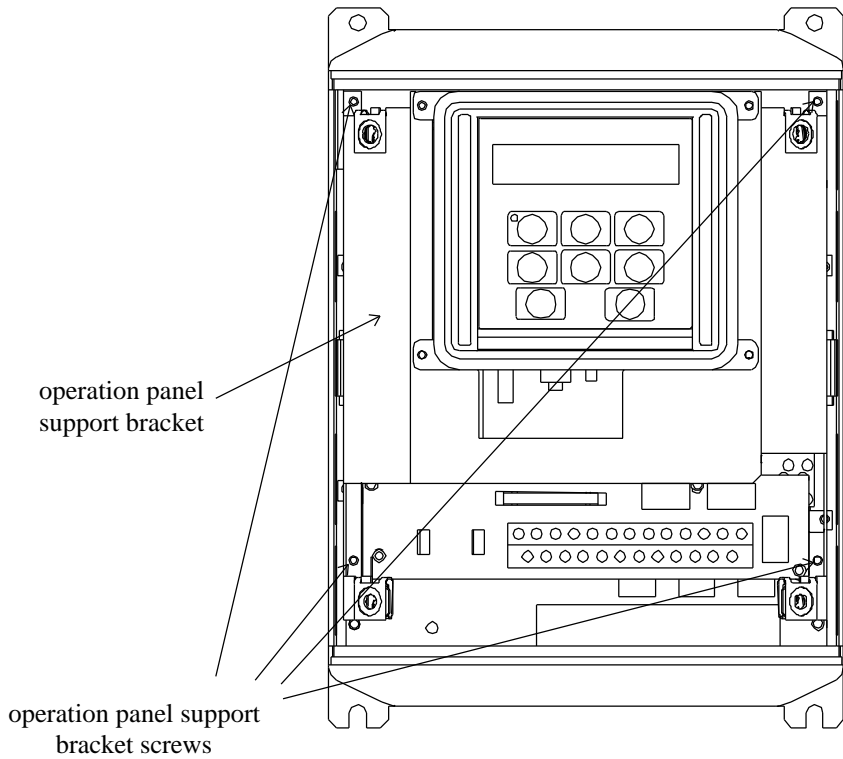

Figure 1: E3 with front cover removed
4. Loosen the 4 screws attaching the E3's operation panel support bracket to the control board support bracket, and then remove the operation panel and support bracket as a unit (refer to Figure 1).